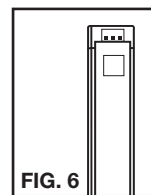

FIG. 6
**NOTE:** If you need to release a wire from a light bar, remove the end cap to expose the connection (see **FIG. 6**) and use the included tool to press and release the copper wires from the light.